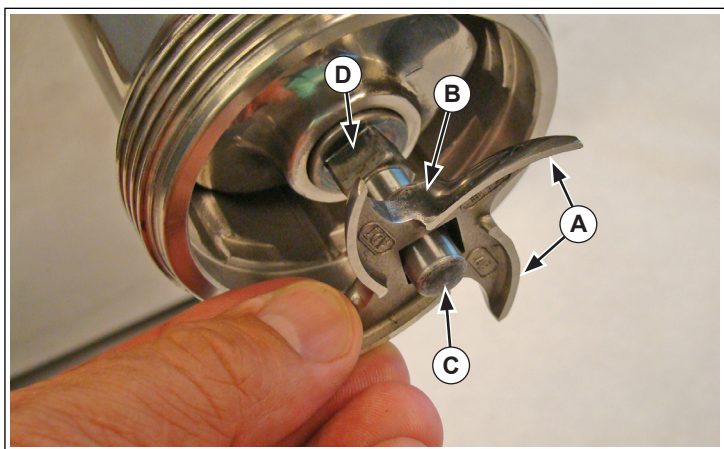

Figure 4. Knife Blade and Blade Shaft
7. Slide the worm gear assembly (B) and the shaft washer (A) into the grinder chamber (C). Slide the worm gear shaft (D) in until it is seated fully.
- Slide the knife blade (B) so that the flat ground edges (A) face to the outside as shown, onto the blade shaft (C). See Figure 4.